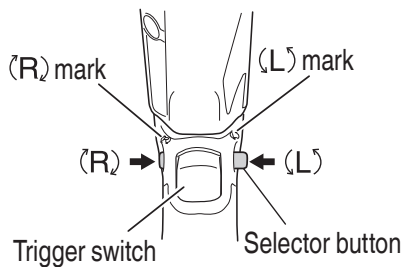

Fig. 5
The bit rotates clockwise (viewed from the rear side) by pushing the R-side of the push button. The L-side of the selector button is pushed to turn the bit counterclockwise. (See **Fig. 5**) (The (L) and (R) marks are provided on the body.)